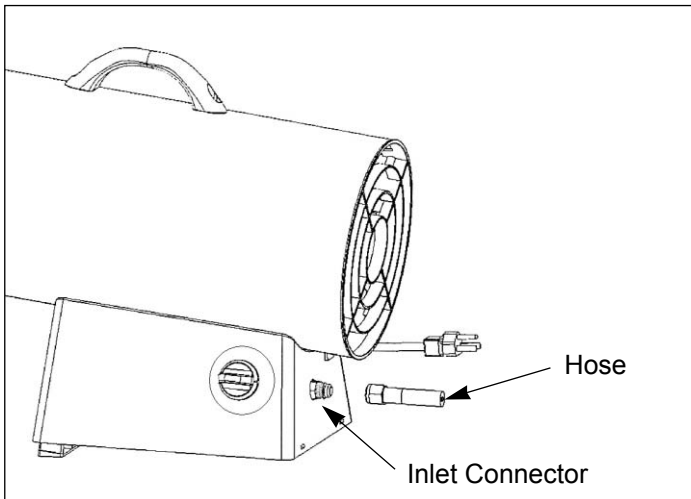

Figure 3. Connecting Hose to Heater Inlet
-To connect to heater inlet, rotate clockwise and tighten firmly with a wrench (see Figure 3, Page 7).